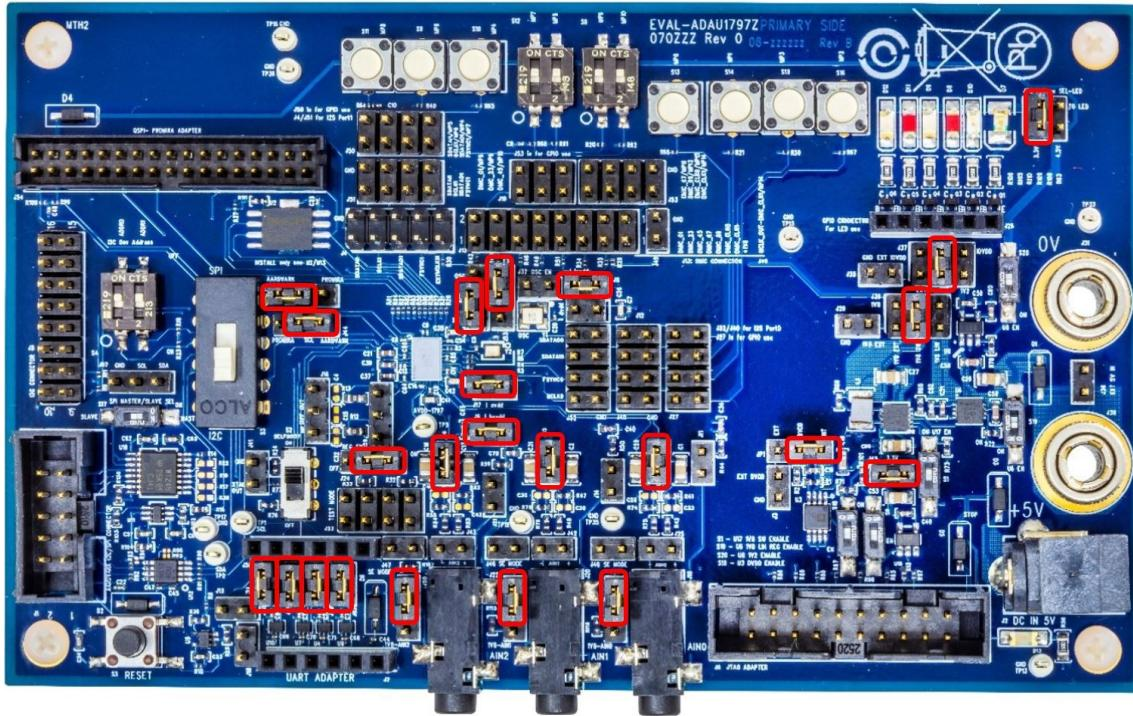

Figure 3. EVAL-ADAU1797Z Evaluation Board Default Jumper Connections
5. Figure 3 shows the default jumper configurations for using the evaluation board. By default, the DVDD is generated internally by the ADAU1797. The part is in I²C mode in this configuration.